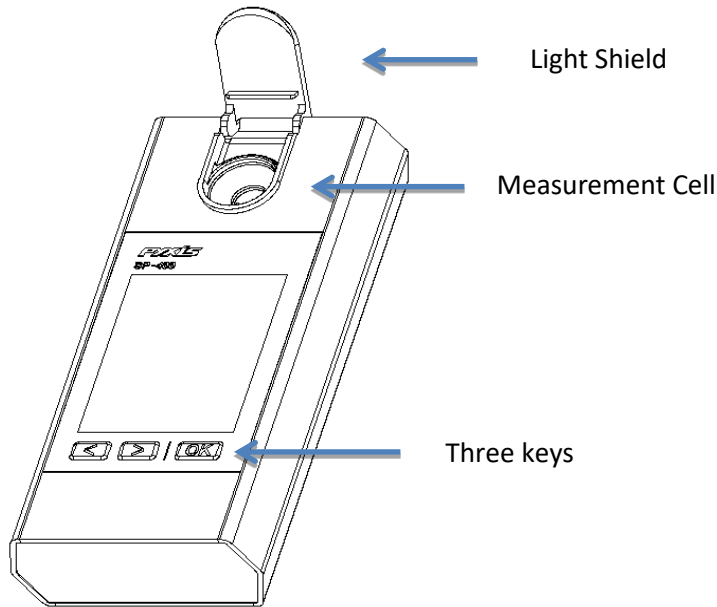

Figure 1 Light Shield in the Open Position
The light shield cover is shown in Figure 1. It should be in the closed position during PTSA measurement.
The SP-400 has three keys as shown in Figure 1. The left (<), right (>) and OK keys are used to launch an action indicated on the screen directly above the keys. Please note that the screen is not a tough screen. The labels above the keys indicate the function associated with the keys and can change according to the screen modes.
- 10) Or, press Exit (> key) to abandon calibration, and return to the basic read mode (Figure 1). No calibration will be done.